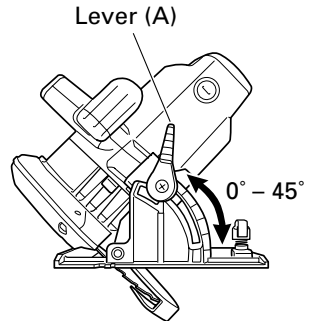
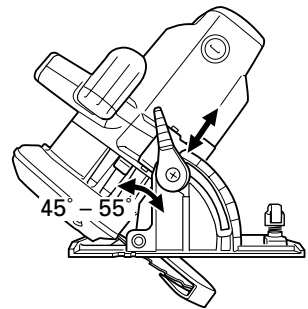

Fig. 11
Fig. 12
You can incline saw blade from 0° to a maximum angle of 55° in relation to the base. As shown in Fig. 11 by loosening the lever (A) on the bevel scale, the saw blade may be inclined to an angle of 45° in relation to the base. If you use inclination angle of over 45° , as shown in Fig. 12 move the lever (A) to inside, the saw blade may be inclined to a maximum angle of 55° in relation to the base. Always ensure that the lever (A) is thoroughly tightened after making the desired adjustment.